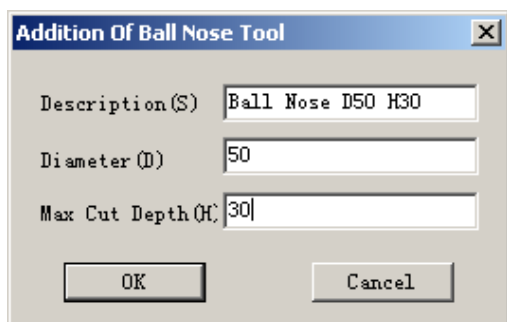

Fig. 10-9
3. A dialog is shown for you to set the parameters of the new tool. (Fig. 10-9)